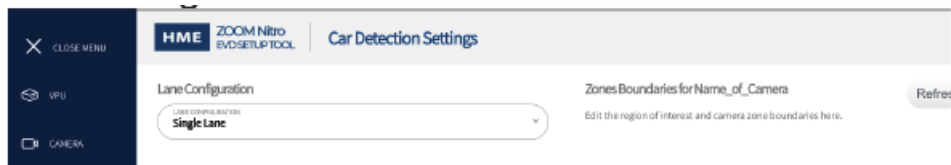

Fig. 4.3
- Go to Car Detection to configure the Lane Lay- out, choose the appropriate Lane Configuration (Lane Configuration must match the Lane Con-figuration used on the ZOOM Nitro timer sys-tem). The first zone to be defined is the Region of Interest (hereafter referred to as ROI). Within the ROI are other zones that must also be defined. See Fig. 4.3.